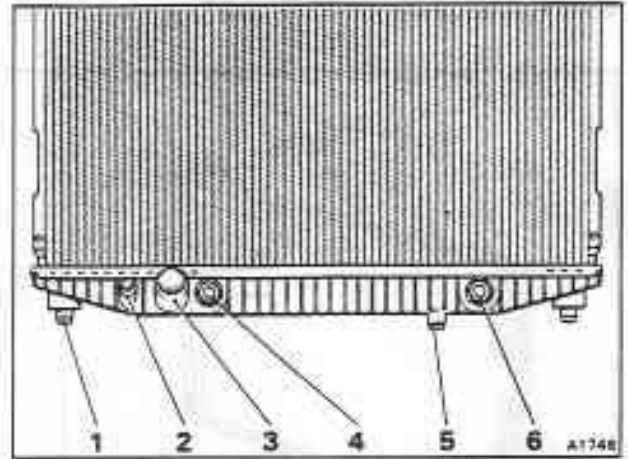

Fig. L4-1 Bottom of radiator assembly
Two transmission oil cooler pipes connect into the radiator bottom tank (see fig. L4-1).
8. Unscrew the two pipe union connections from the bottom of the radiator (see fig. L4-1). One pipe conveys oil from the transmission to the radiator where it is cooled in a separate matrix within the base of the radiator. The other pipe returns the cooled oil to the transmission. Allow any transmission fluid that drains out to run into a clean container. Blank the open connections.